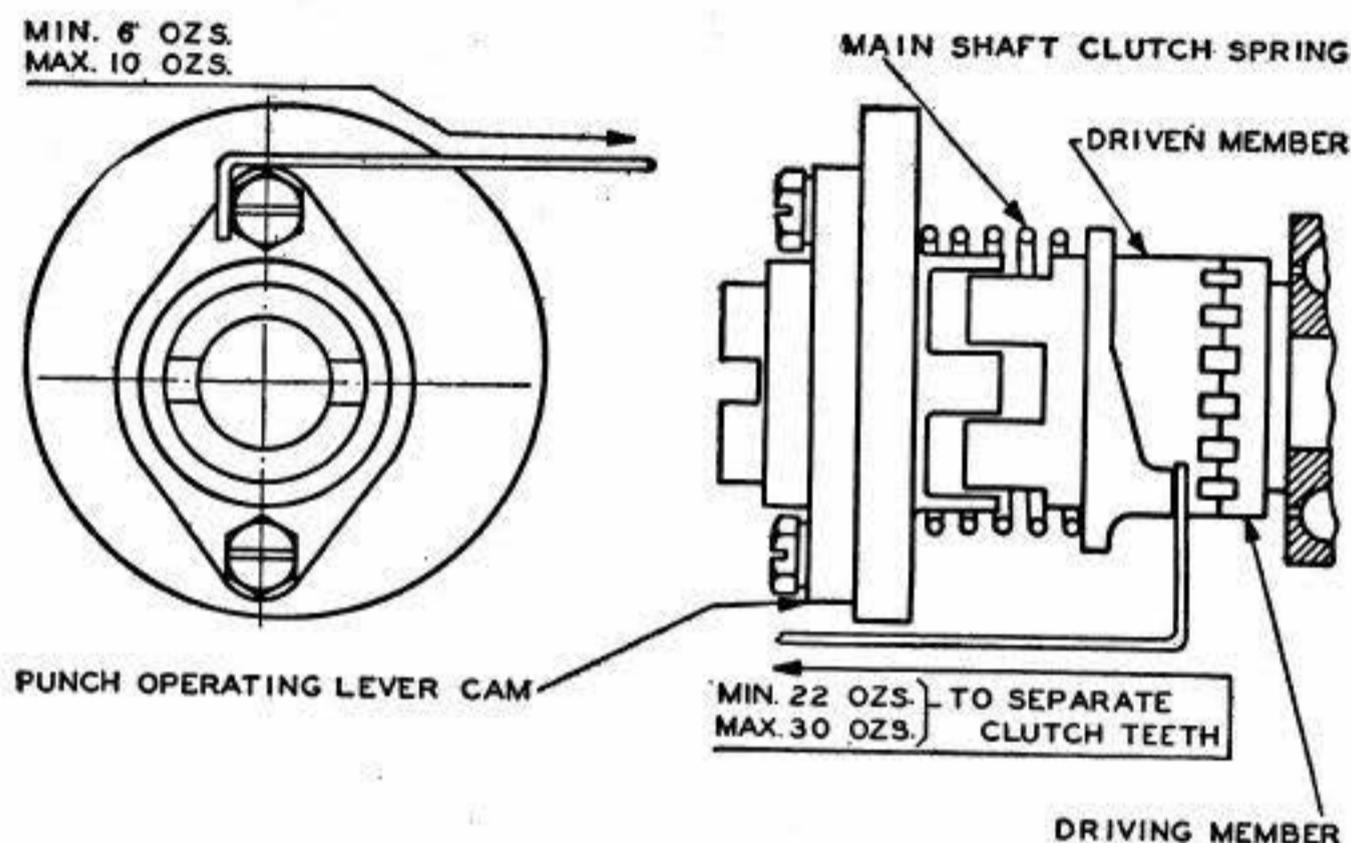

Fig. 4
2.06 **Main-Shaft Clutch Spring.** It should require a pull as indicated in Fig. 4 to separate the clutch teeth. With the teeth of the driven clutch-member resting against the teeth of the driving clutch-member, but not engaged, hook the scale over the throwout cam on the driven clutch-member and pull as nearly in line with the shaft as possible. **Fig. 4**
2.07 The **clutch driven-member**, after being pulled manually to the position of extreme disengagement, as in 2.06, should start and slide until it engages with or touches the driving-member teeth as the force opposing the clutch spring is reduced to not less than 10 oz. For identification of parts see Fig. 4.
2.08 **Punch Operating-Lever-Cam Friction-Clutch.** It should require a pull of Min 6 oz, Max 10 oz applied to the punch operating-lever cam screw perpendicular to the plane passing through the two cam mounting screws, with motor running, selector magnet operated and punch-operating lever held away from its cam, to move the cam in a direction opposite to that of normal rotation. **Fig. 4**